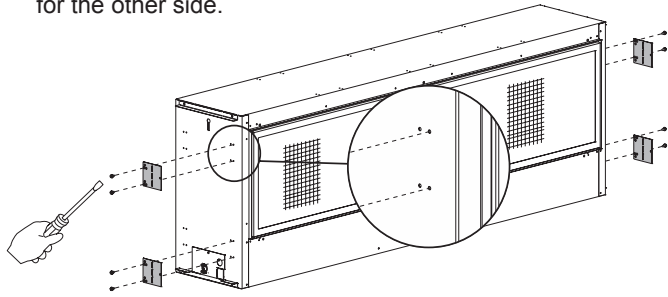

Figure 24 - OPTION 1
2. The holes in the nailing flanges allow for different thickness boards and depths of wall boards. See **Figure 20**. Install nailing flanges with two 10 x 1/2 inch screws (each) in pair of holes closer to the face of the fireplace. Leave the nailing flanges flat until after the fireplace is lifted into the framing. See **Figures 24, 25, and 26**.